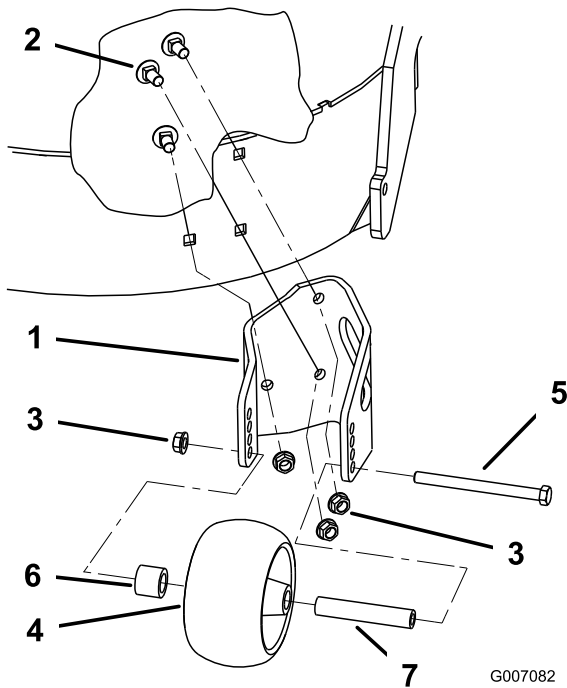

Figure 1
- Install the roller bracket to the mower using 3 carriage bolts (3/8 x 3/4 inch) and flange nuts (3/8 inch) (Figure 1).
- Secure the roller with a flange nut (3/8 inch) (Figure 1).
- Slide the long spacer into the anti-scalp roller (Figure 1).
- Place the short spacer inside the roller hub on the side of the roller with the short hub (Figure 1).
- Place the roller into the roller bracket and push the bolt (3/8 x 4-1/2 inches) through the bracket, short spacer, and the long spacer/roller assembly at the desired height (Figure 1).